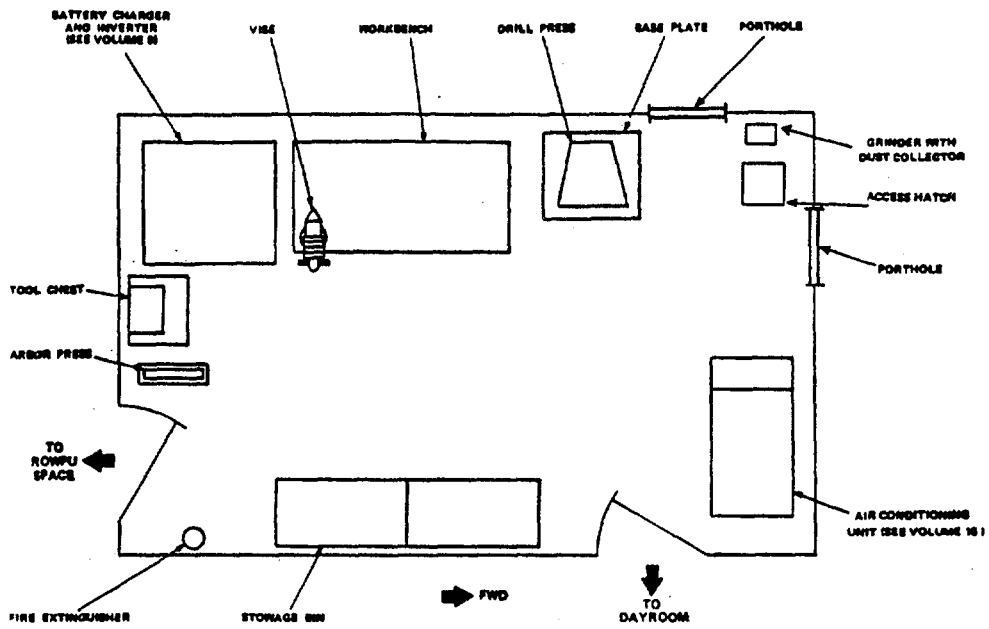

Figure 15-2. Workshop Arrangement
**15-3.2 Workshop equipment.** Figure 15-2 shows both operational and nonoperational items. Operational equipment includes an arbor press, drill press, and grinder with dust collector. Nonoperational equipment includes stowage bins and workbench with vise. The workshop includes an arc welder in the ROWPU space portside, under the air compressor motor controller near the life preserver stowage box.